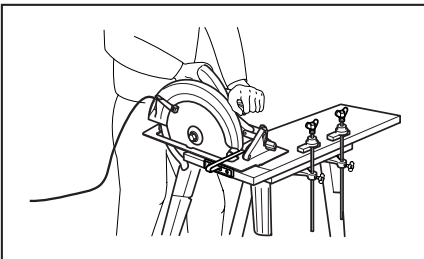

Fig. 4 A typical illustration of proper hand support, workpiece support, and supply cord routing.
**WARNING:** It is important to support the workpiece properly and to hold the tool firmly to prevent loss of control which could cause personal injury. Fig. 4 illustrates typical hand support of the tool.